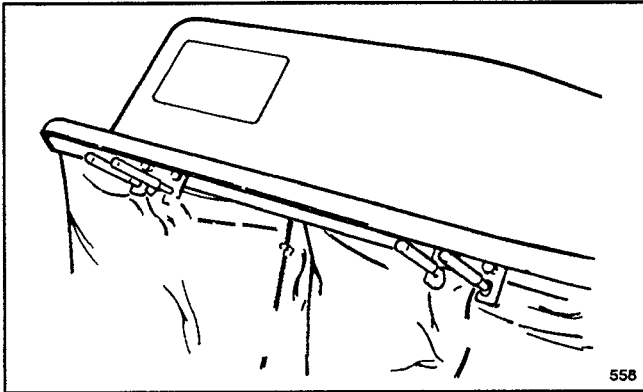

Figure 10
4. Lift rear of bag up to bag cover. Squeeze bag handles, allowing them to be positioned in bag frame brackets. Release bag handles, locking them in brackets (Fig. 10).